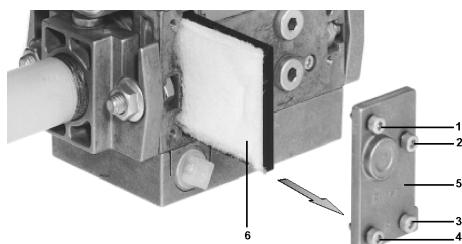

Fig. 28
- 2 Remove screws 1 ÷ 4 using the Allen key n. 3 and remove filter cover 5 in Fig. 28.